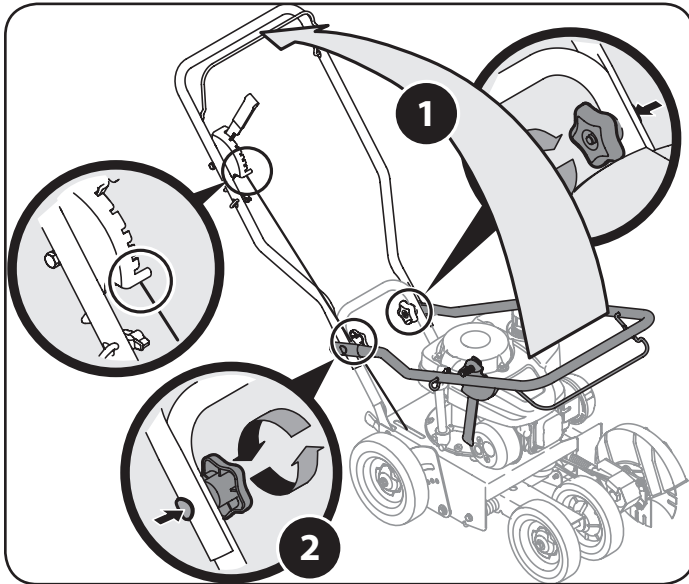

Figure 1
1. Pivot the upper handle upward until it snaps into place. See Figure 1.